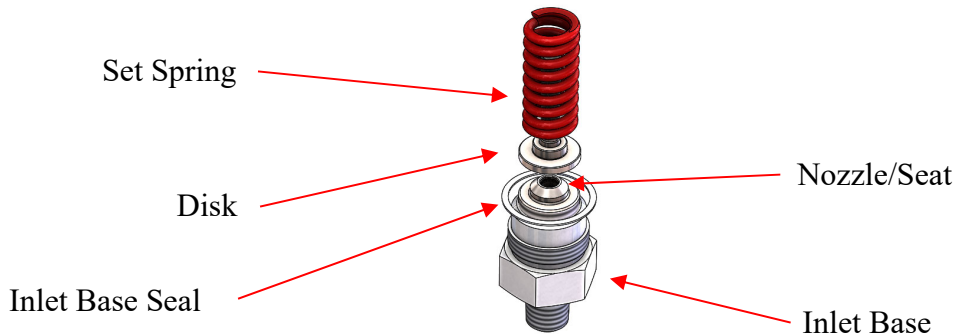

Figure 43: Inlet Base Components
6. Remove the set spring and disk subassembly. See Figure 43.
7. Remove the inlet base seal. See Figure 43.